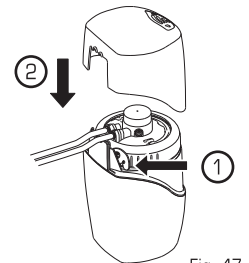

Fig. 47
7. **Store** the removal tool for future use (1). **Place** the Top Shroud onto Base (2) (Fig. 47).